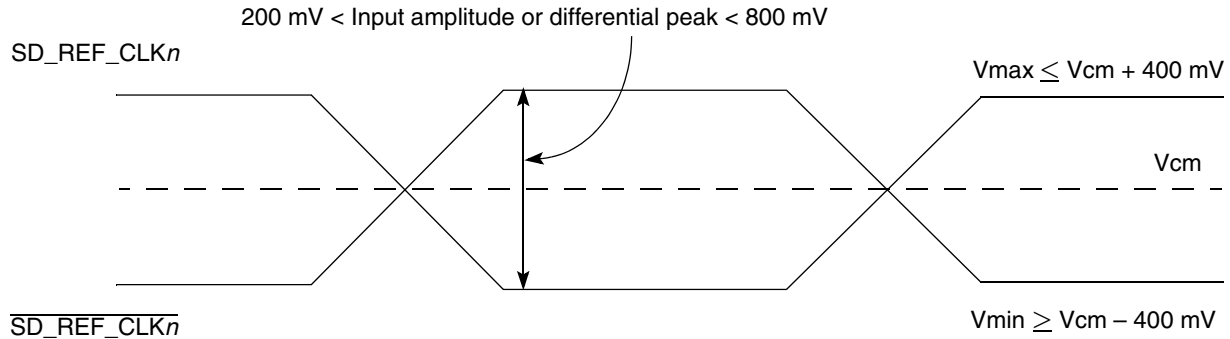

Figure 35. Differential Reference Clock Input DC Requirements (External AC-Coupled)
- For an external AC-coupled connection, there is no common mode voltage requirement for the clock driver. Because the external AC-coupling capacitor blocks the DC level, the clock driver and the SerDes reference clock receiver operate in different common mode voltages. The SerDes reference clock receiver in this connection scheme has its common mode voltage set to SGND. Each signal wire of the differential inputs is allowed to swing below and above the common mode voltage (SGND). Figure 35 shows the SerDes reference clock input requirement for AC-coupled connection scheme.